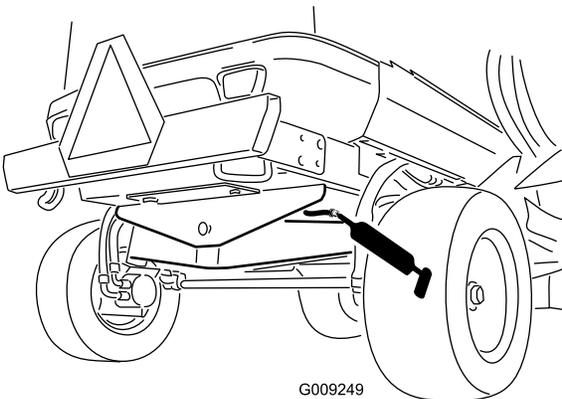

Figure 88
- 1 rear axle-pivot bushing (Figure 88)